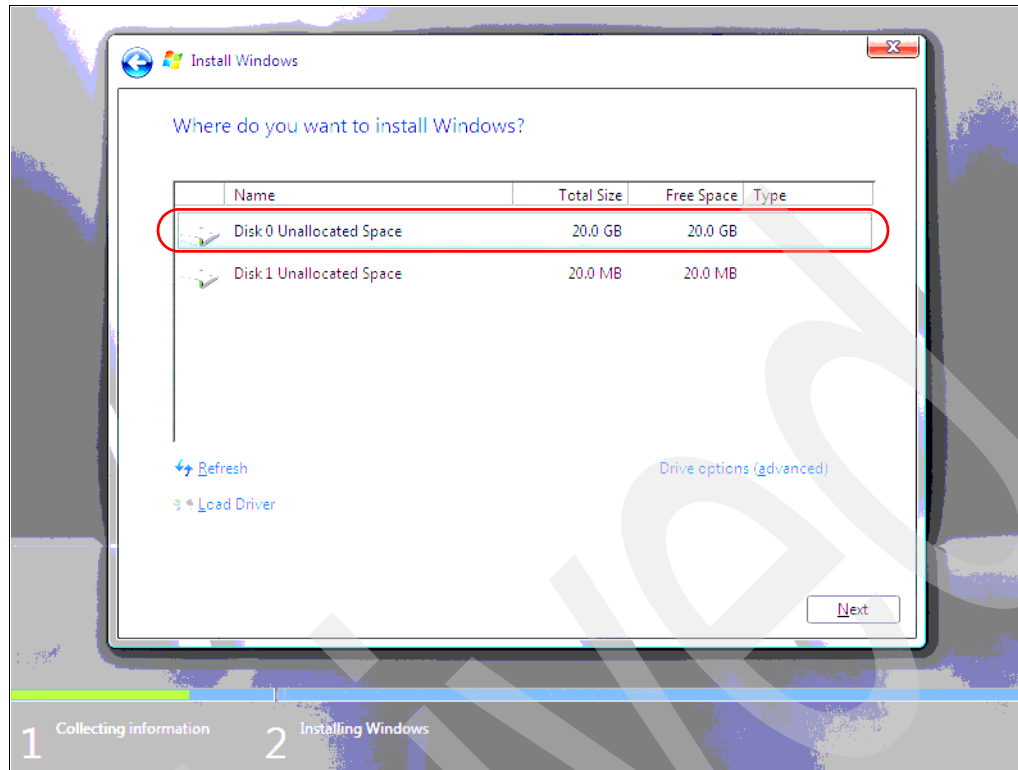

Figure 27-30 Installation disk selection
1. When the installation starts you will be presented with the window shown in Figure 27-30 on page 697. You can select the disk to be used for the installation here. In our example, the 20 GB boot-LUN created in the DS3400 System Storage subsystem is listed. You have the option to load device drivers for external devices.